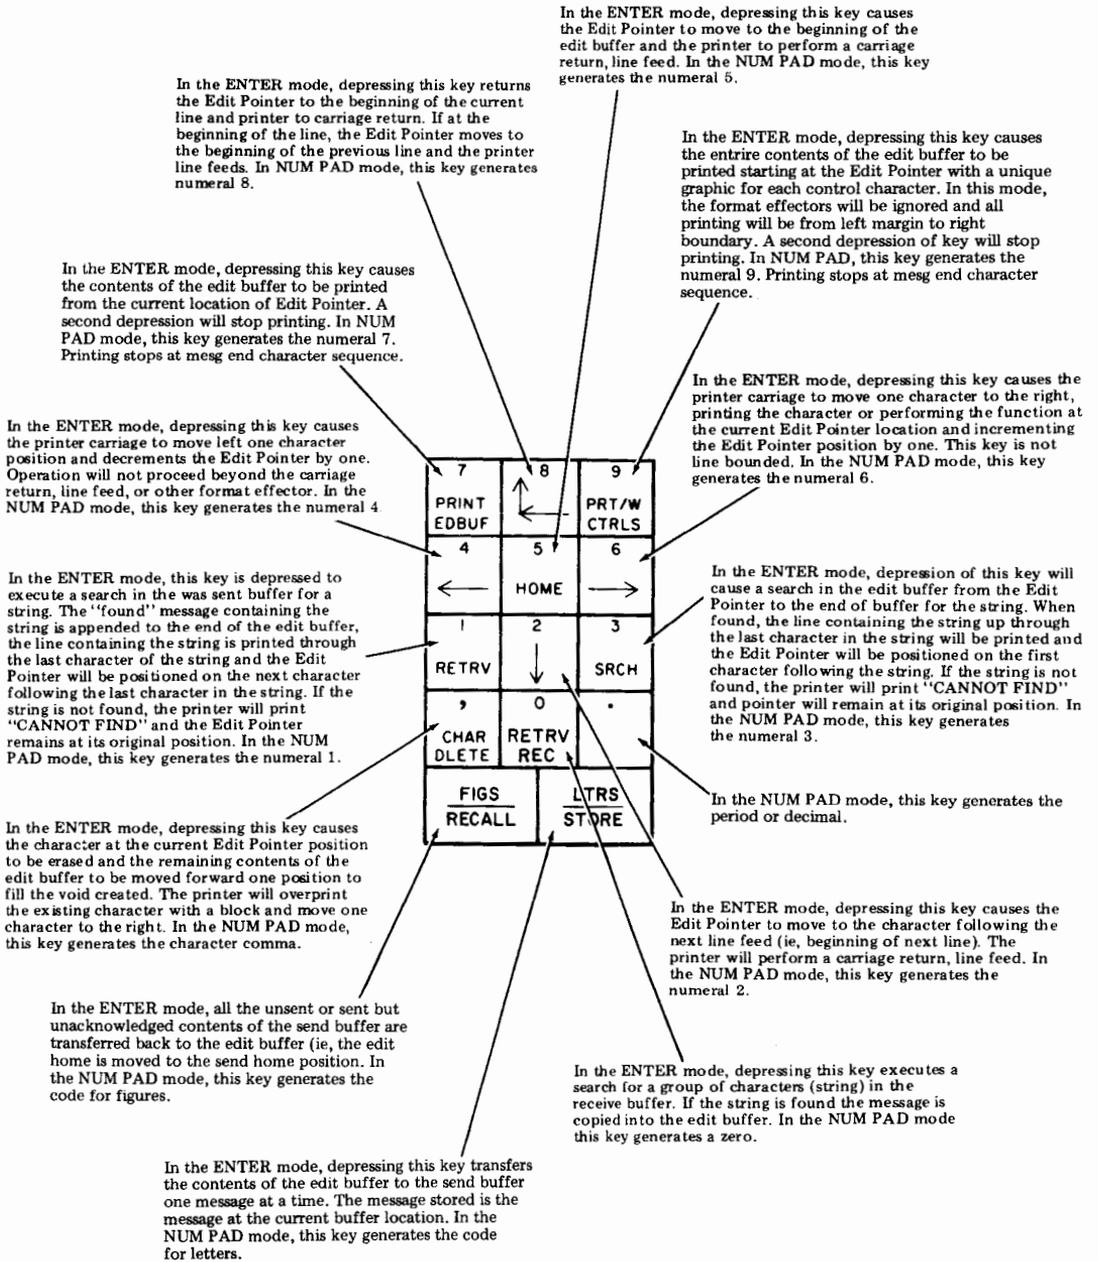

Fig.5—Numeric/Edit Pad
3.04 The functions of the Numeric/Edit Pad are described in Fig. 5.